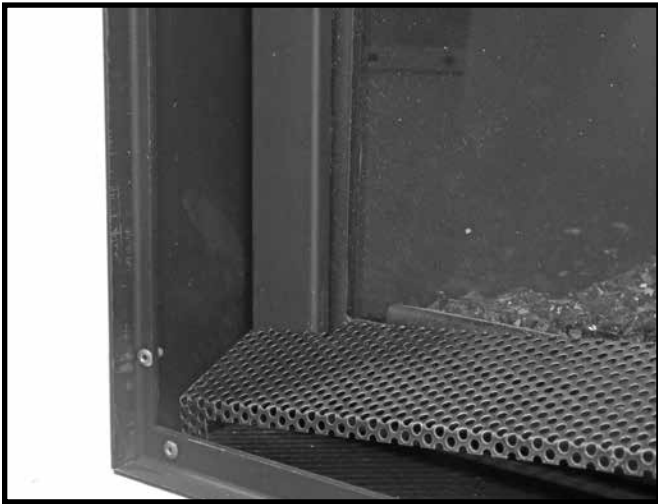
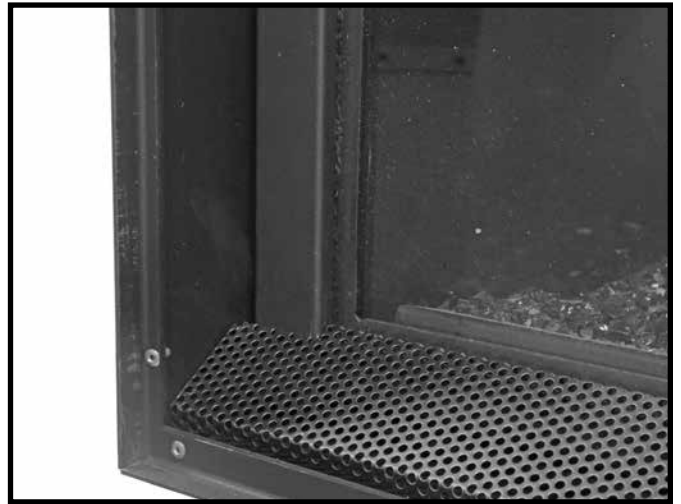

Figure 71: Installing bottom trim.
Figure 72: Bottom trim in place.
4. The meshed trim piece for the bottom rests on the floor and in the gap between the outer-most door frame and the fireplace glass (Figure 71 and Figure 72).